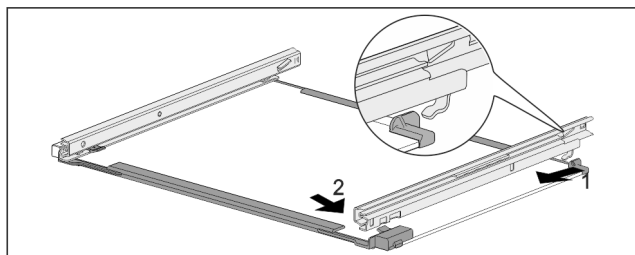

Fig. 228 Glass shelf with rails
- Hook in rail at the back. Fig. 228 (1)
- Hook in rail at the front. Fig. 228 (2)